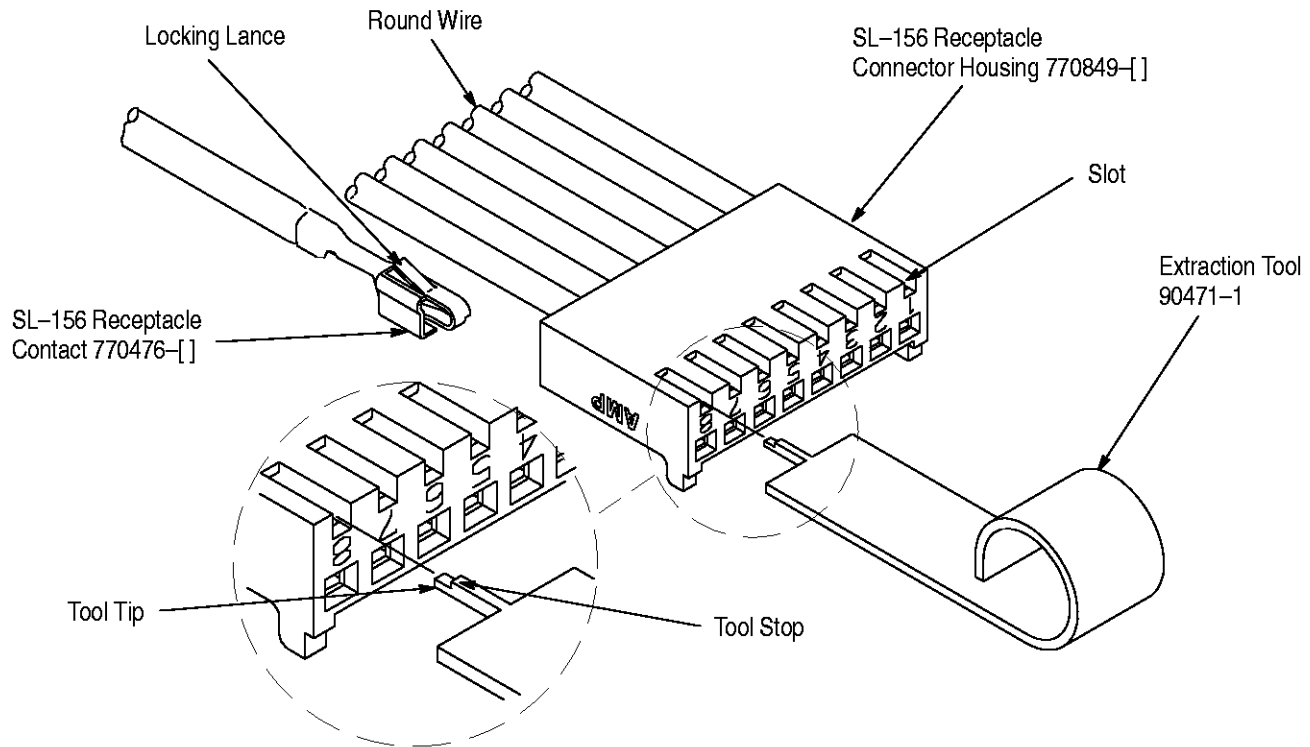

Figure 1
AMP\* Extraction Tool 90471-1 is designed to extract individual AMP SL-156 Receptacle Contacts from SL-156 Connector Housings. See Figure 1 for a typical SL-156 receptacle contact and connector housing. Read this sheet carefully before using the tool.
1. Position the extraction tool as shown in Figure 1 and insert the tip straight into the slot until the tool stop bottoms on the connector.